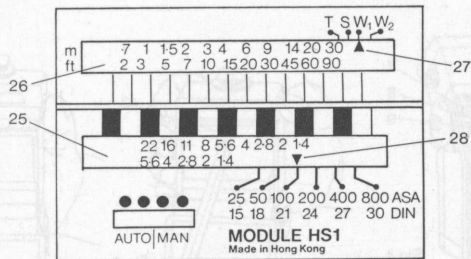

Fig. 10
The calculator slide rule (see Figure 10) has two slides, one on the flashgun proper (the 'Distance' slide (26)) and one on the module (the 'Aperture' slide (25)). Your module may have a different appearance to Figure 10 but the principle of operation is the same in all cases. As well, full instructions are given with the module.
'Aperture' slide to the film speed you are using. You may now read the appropriate distance above any given aperture. In Figure 10 it is to be noted that the Distance slide has been set to W1 and the Aperture slide to 100 ASA (DIN 21). Note that there are two aperture scales on the Aperture slide. The upper scale is for full power manual or for automatic control while the lower scale is for reduced power. (NOTE. These are switch selectable. See your module instructions). You may now look above the aperture you are using and read off the distance. In Figure 10 if you were using f2.8 at full power or on automatic the distance is 30 feet (9 M). If you were using f2.8 on low power it is 7 feet (2 M).